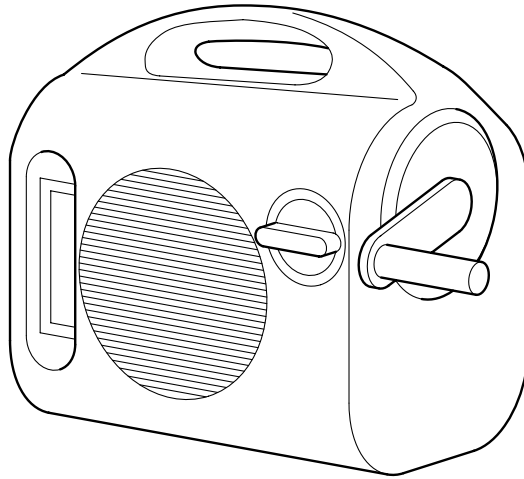

Fig. 1
- 1 Fig. 1 shows a radio, powered by clockwork, which is to be used by people living in remote parts of the world.